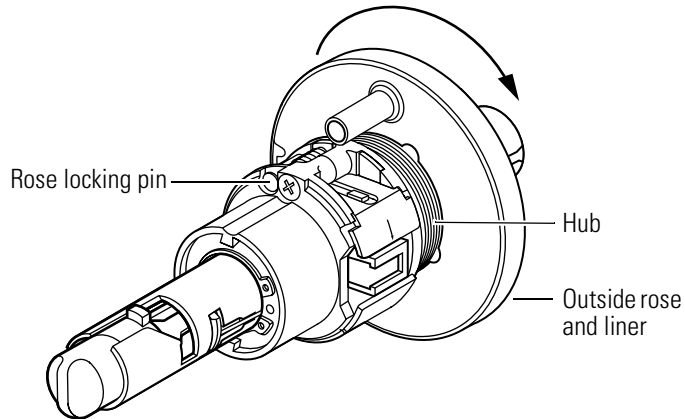

Figure 3.12 Adjusting the outside rose and liner assembly
- b. Retract the rose locking pin and adjust the outside rose and liner assembly as necessary, as shown in Figure 3.12.